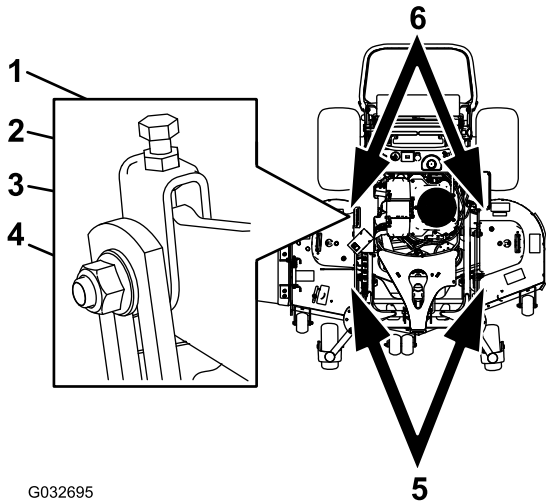

Figure 88
1. Loosen the jam nut and side bolt in the yokes that you want to adjust (Figure 88).
2. Rotate the top bolt of the yokes to adjust the height of the mower deck (Figure 88).
5. If the measurement is not correct, locate the front 2 yokes on the machine (Figure 88).